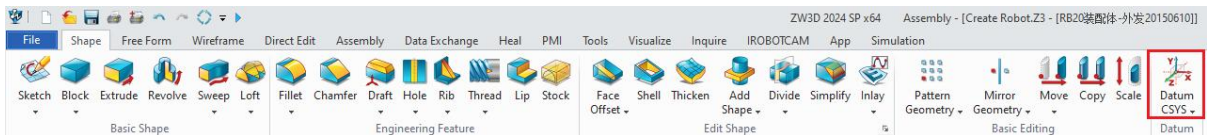

Figure 8-5: Datum CSYS
- Select the "Datum CSYS" option in the "Shape" tab. (Figure 8-5)